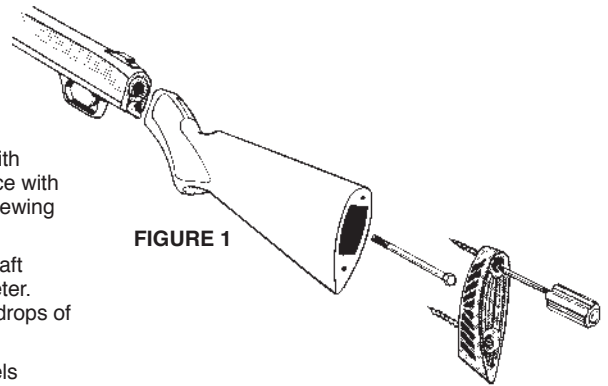

FIGURE 1
1. Remove original buttstock (Figure 1). Refer to manufacturer's instructions that came with your firearm for the best method to remove your stock. Normally, the pad is held in place with two Phillips screws and the stock is held on by one bolt. Remove the butt pad by unscrewing the Phillips screws and remove the stock bolt to free the stock from the shotgun.